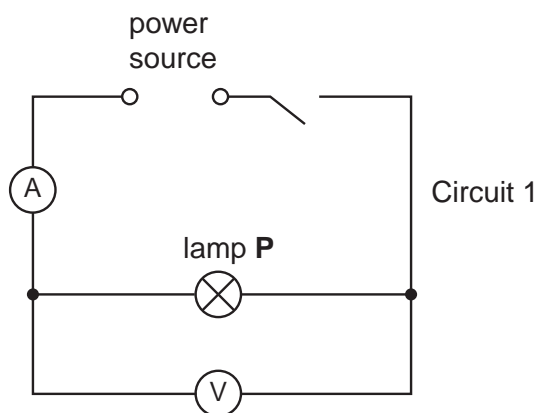

Fig. 3.1
1. The circuit is to be set up for the candidates as shown in Fig. 3.1 with the additional leads and lamp **Q** within easy reach.
Reconnect the circuit as shown in Fig. 3.1.